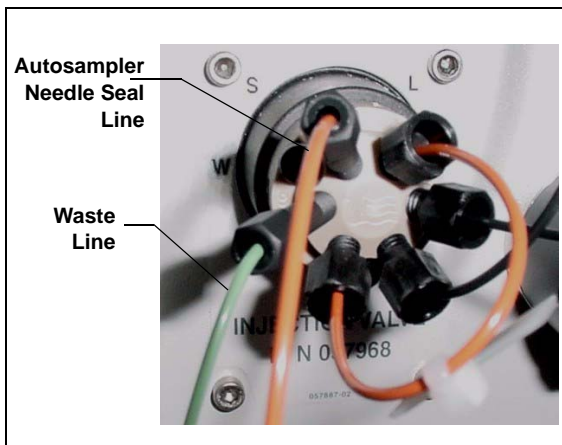
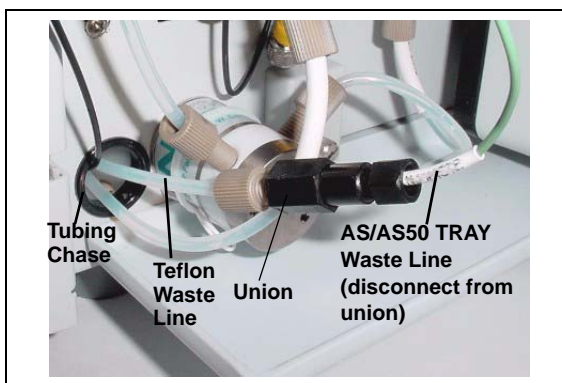

Figure 40. ICS-1500 Injection Valve
Figure 41. Injection Valve Waste Line Union
4. Connect the needle seal line from the autosampler to port **S (5)** on the injection valve (see Figure 40).
The green waste line that is connected to port **W (6)** on the injection valve (see Figure 40) is connected with a union to a Teflon waste line (see Figure 41) and routed through the tubing chase to the ICS-1500 rear panel.